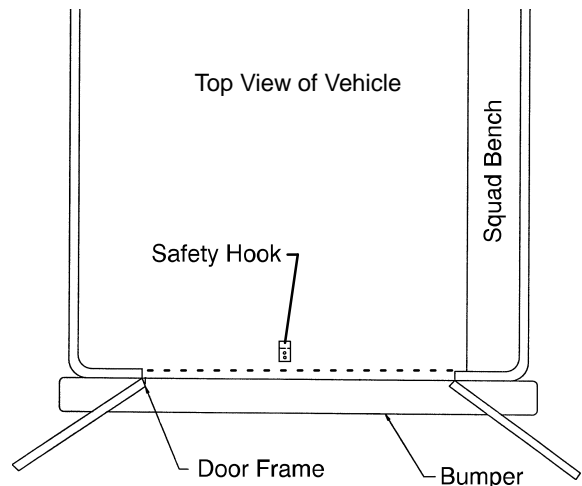

Figure 6 – Safety Hook Placement
6. Mark the position of the safety hook on the patient compartment floor. The safety hook should be installed as close as possible to the rear of the vehicle while allowing the vehicle doors to close (Figure 6). Be sure the bumper and bumper step don't interfere with the folding and unfolding of the cot's undercarriage.